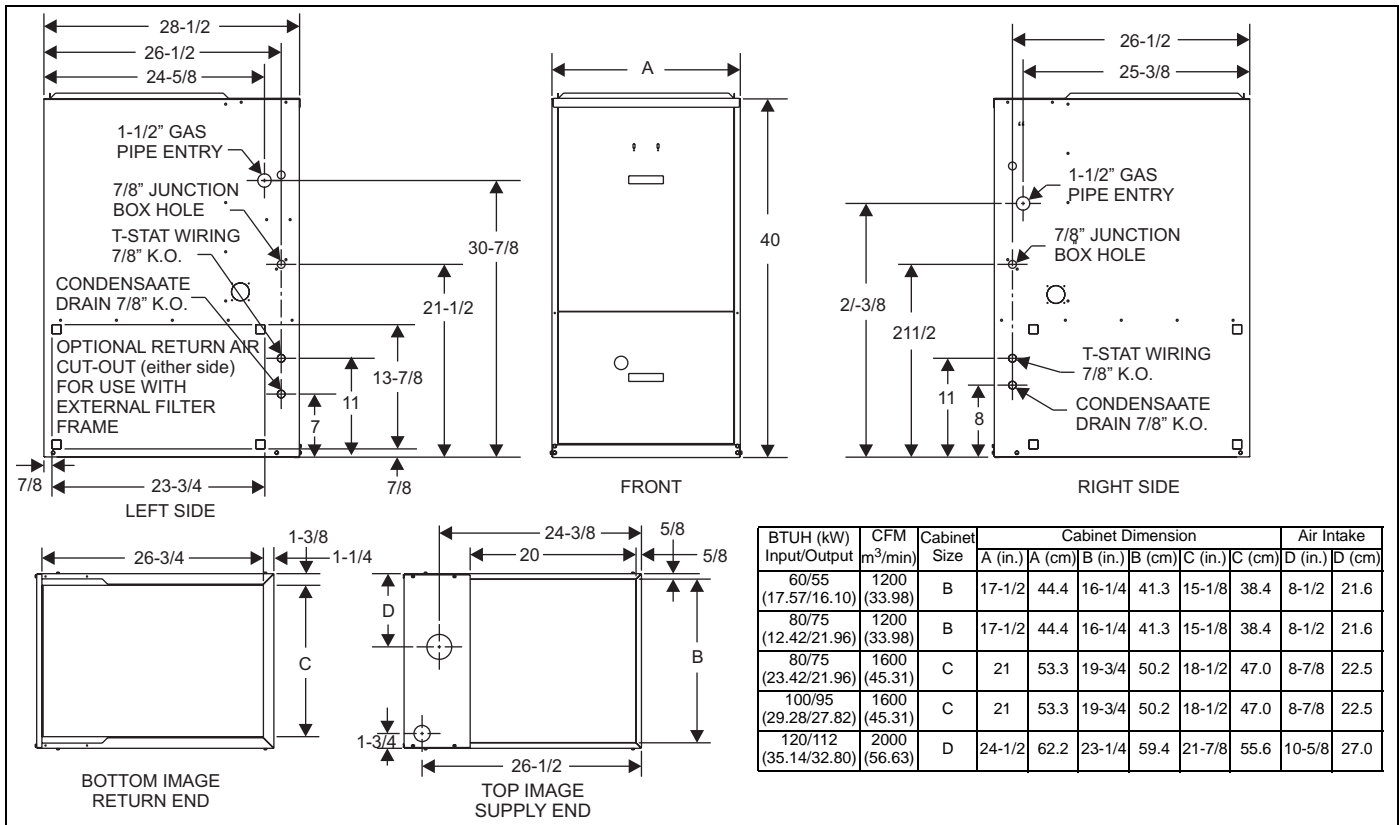

FIGURE 1: Dimensions
4. Bend the 3/4" flanges that will be used to attach the return air plenum using the scribe marks in the furnace base. Refer to Figure 1 "Bottom Image Return End".
5. Be sure to seal the furnace to plenum connections to prevent air leakage. Refer to Figure 1 for unit and plenum dimensions.
Locate and mark the side return opening. Refer to Figure 1 for dimensions of the cutout.
IMPORTANT: Some accessories such as electronic air cleaners and pleated media may require a larger side opening. Follow the instructions supplied with that accessory for side opening requirements. Do not cut the opening larger than the dimensions shown in Figure 1.
Gas piping may be connected from either side of the furnace using any of the gas pipe entry knockouts on both sides of the furnace. Refer to Figure 1 dimensions.